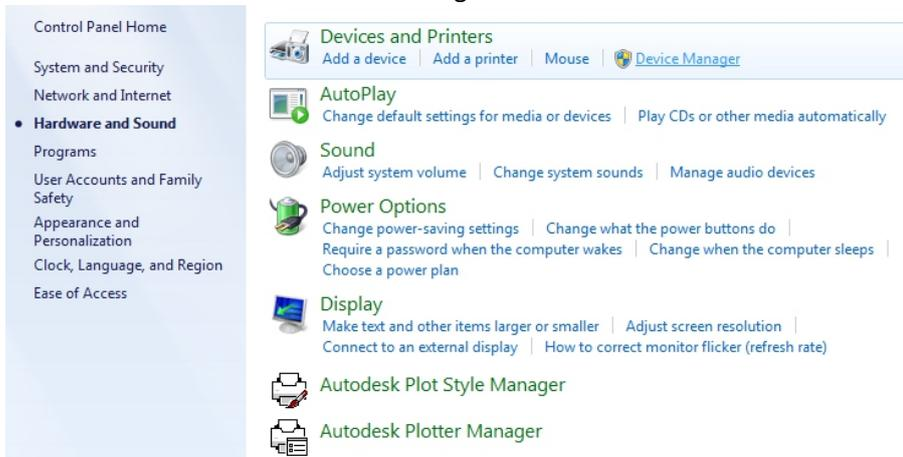

Fig. 2-25
- ◆ Double click the CDMuninstallerGUI.exe (The uninstaller program and the USB drivers are in the disk which is provided by us. You can copy the program to anywhere in your computer. As shows in Fig.2-25, the path is C:\USB Drivers\USB Virtual COM Port Drivers Uninstaller_v1.4\CDMuninstaller_v1.4.